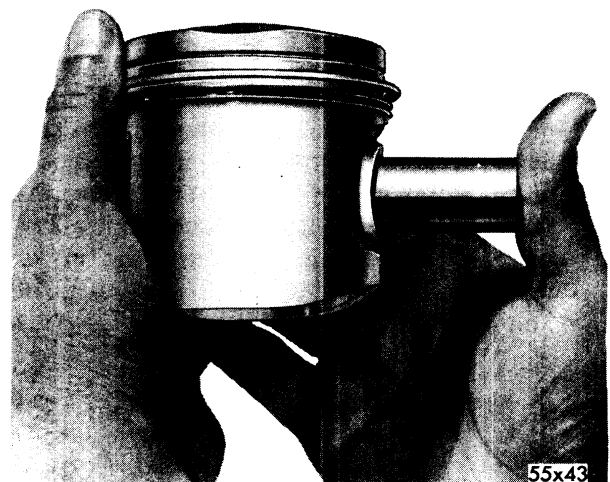

Fig. 39—Fitting Piston Pin In Piston
- (2) Test piston pin fit in piston, as shown in Figure 39. This should also be a tight thumb-press fit at normal room temperature.